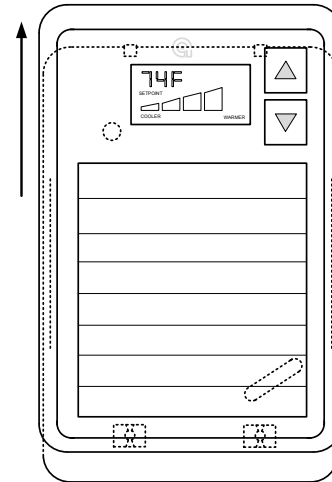

Fig. 2 – Opening Adjuster
1. Open the adjuster. Slide the adjuster up from the back plate approximately 1/4"/6mm to free the adjuster from the back plate (see Fig. 2 Opening Adjuster).